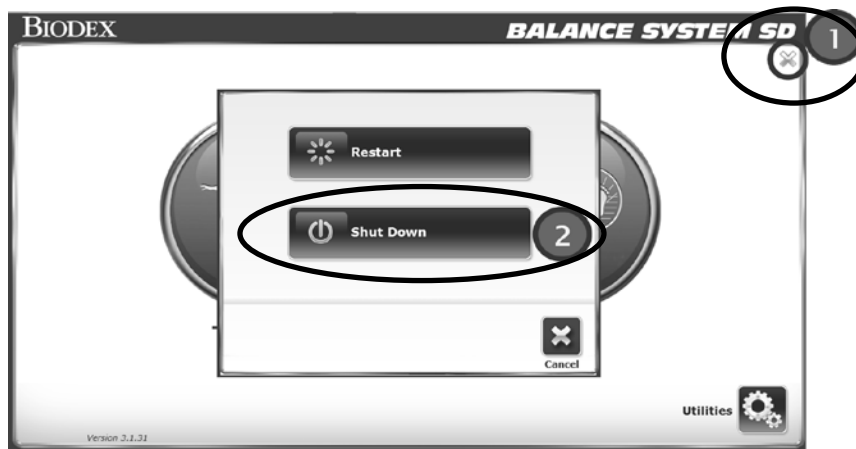

Figure 2.2. Shut Down Icon.
1. Shut down the software as illustrated in Figure 2.2.